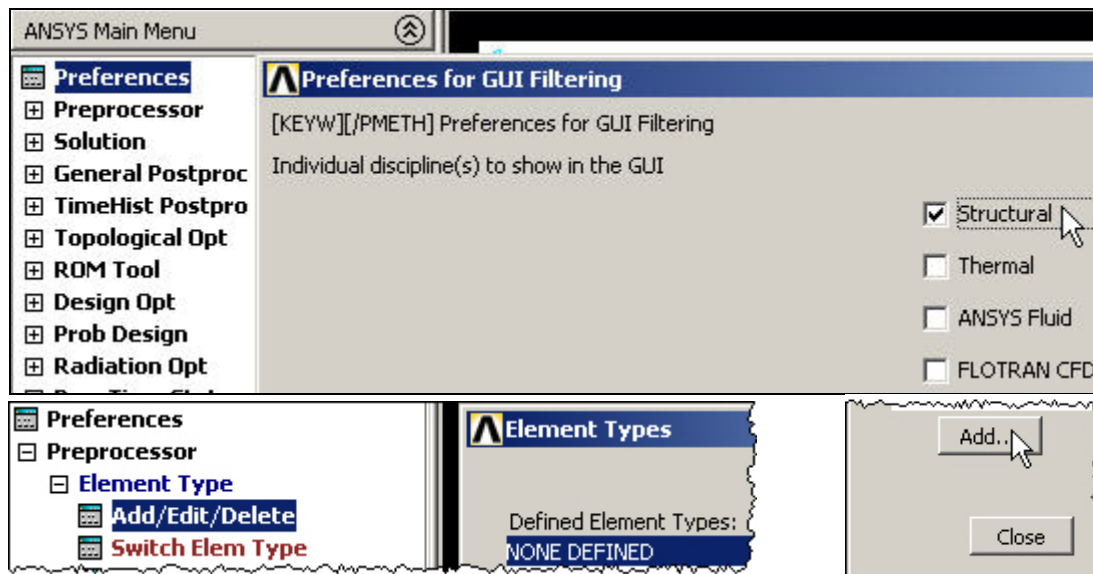

Figure 4 Declare the selection of a structural analysis
3. **Main Menu**→**Preprocessor**→**Element Type**→**Add/Edit/Delete**, as in Figure 4.